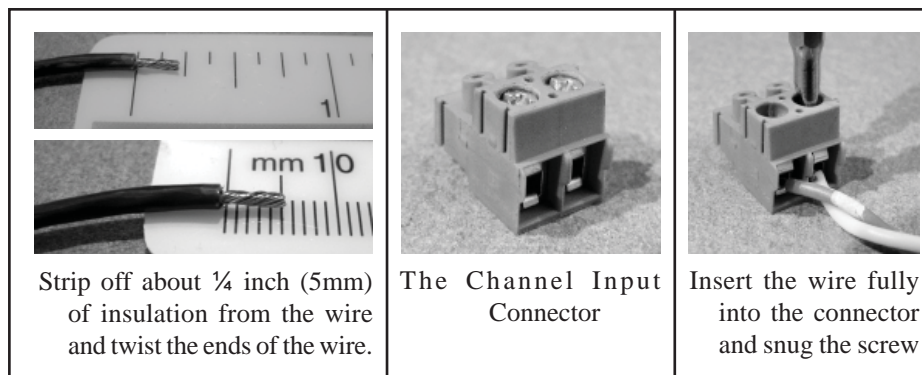

Figure 5 - Wiring the Channel Input Connector
- b. Connect the two wires from each input device to the two screw terminals for each channel input of the Channel Input Connector (P1) for each Input Module (see Figure 5).